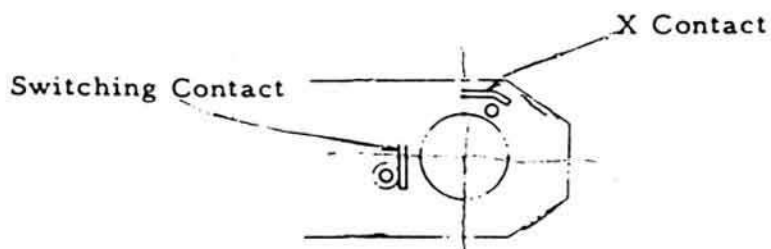

Fig. 14
- (Note) Switching contact and X contact are at the respective positions shown in Fig. 14.